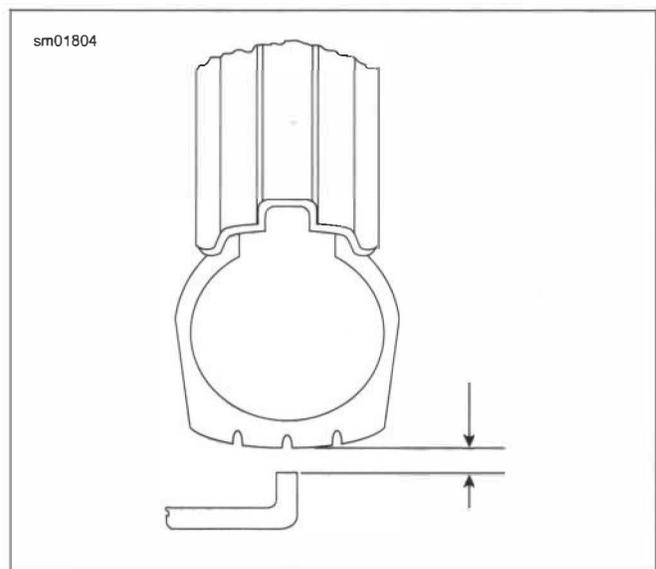

Figure 3-19. Checking Tire Radial Runout
2. See Figure 3-19. Spin the wheel on the axle and measure radial runout at the tread centerline.